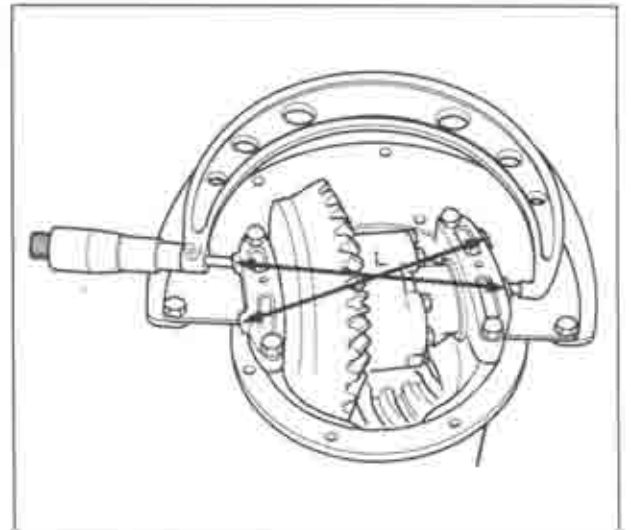

Fig. 9-33 Adjusting bearing preload (case spread)
3. The preload on the differential bearings is obtained by tightening the adjusters. Tighten the adjusters until the distance between both pilot sections on the bearing caps becomes 185.428 ~ 185.5 mm (7.3004 ~ 7.3033 in), as shown in Fig. 9-33.